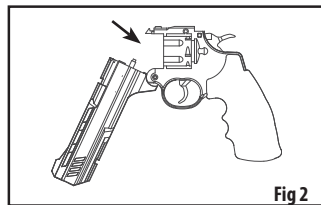

Fig 2
- ALWAYS keep the air rifle "ON SAFE" until you are ready to shoot (Figure 2).
- ALWAYS check to see if the air rifle is "ON SAFE" (Figure 2) and unloaded when removing it from storage.
- ALWAYS check to see if the air rifle is "ON SAFE" (Figure 2) and unloaded when handing it to, or receiving it from another person.
**WARNING:** BE CAREFUL TO KEEP FINGERS CLEAR OF THE PINCH POINTS. FIGURE 2 SHOWS THE PINCH POINTS TO BE AWARE OF.